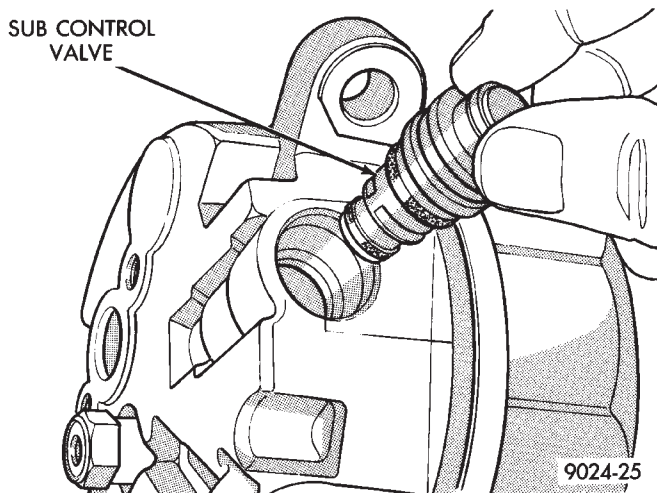

Fig. 21 Remove or Install Main or Sub Control Valve
- (4) Pull the main or sub control valve from the compressor end cover (Fig. 21).